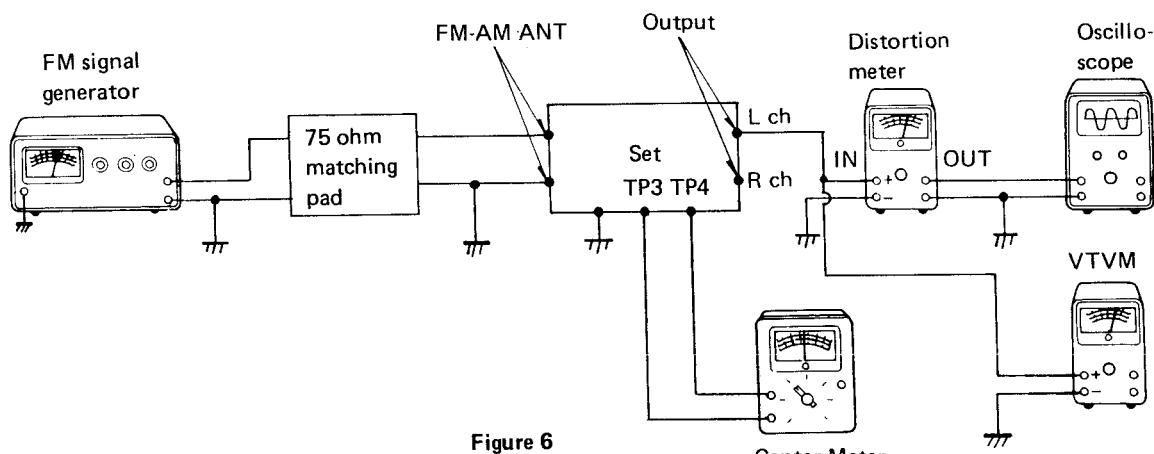

Figure 6
- (1) Connect test equipments as shown in Figure 6.
- (2) Push the FM button.
- (3) Set the MUTING switch to OFF (■) and IF BAND switch to WIDE (■).
- (4) Generator modulation ... 1 kHz (75 kHz dev.).
- (5) Proceed as outlined in the TABLE 3. FM ALIGNMENT CHART.